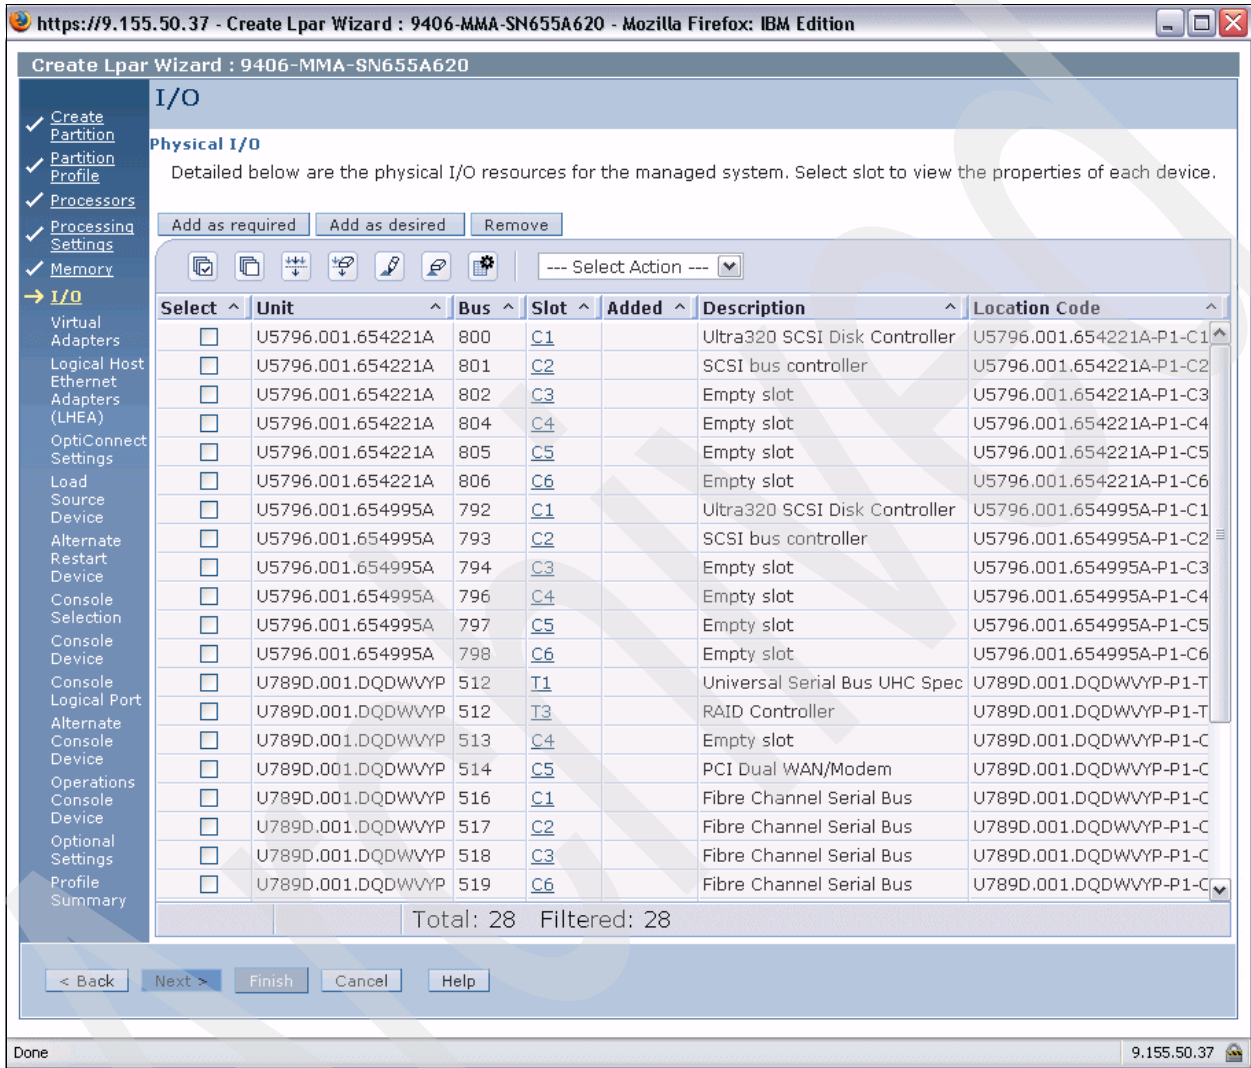

Figure 6-27 Create LPAR I/O dialog
- Our IBM i client partition is not supposed to own any physical I/O hardware so we simply select **Next** in the I/O dialog, as shown in Figure 6-27.